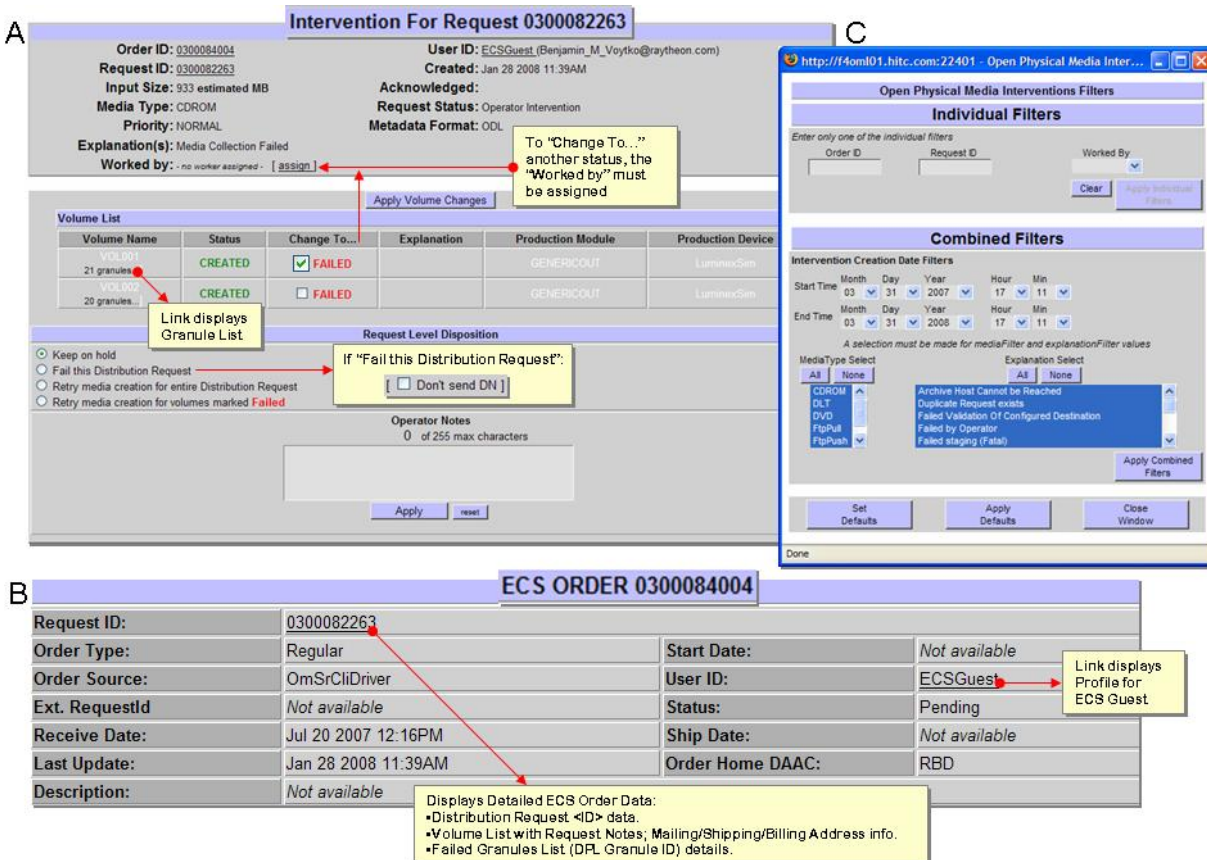

Figure 15.12-17. Open PM Interventions For Request ID Details (A), Order ID Details (B), and Filters (C)
- 3 Observe information displayed on the **Open Physical Media Interventions** page. Under the **Listing** section of the page, additional pages of detailed information (Figure 15.12-17, Frames A, B, C) are available as options are selected:
- ▶ Click on a specific underscored Order ID<number> to examine more detailed data (Figure 15.12-17, Frame B) concerning that particular order.
- ▶ Click on a specific underscored Request ID<number> to examine more detailed data (Figure 15.12-17, Frame A) concerning the intervention for that particular request.
9 If there is a device listed in the **Production Device** field of the **Interventions For Request ID** details page (Figure 15.12-17), the device should be made available for processing other requests, while the current request is in Intervention. To free up the device: